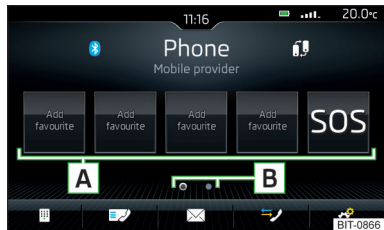
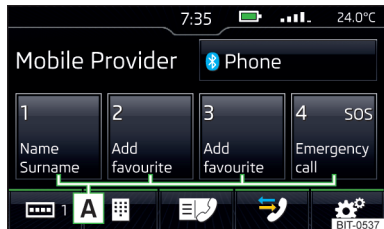

Fig. 167
Fig. 168
- ▶ In the main *Telephone* menu, **tap** on the desired free function surface **A** » Fig. 167 or » Fig. 168.
- ▶ To **switch storage group**, tap the function surface **B** » Fig. 167 or » Fig. 168 and select the desired group.
- ▶ To **dial**, tap the assigned function surface **A** » Fig. 167.
- ▶ In the main *Telephone* menu, **press and hold** the desired function surface **A** » Fig. 167.